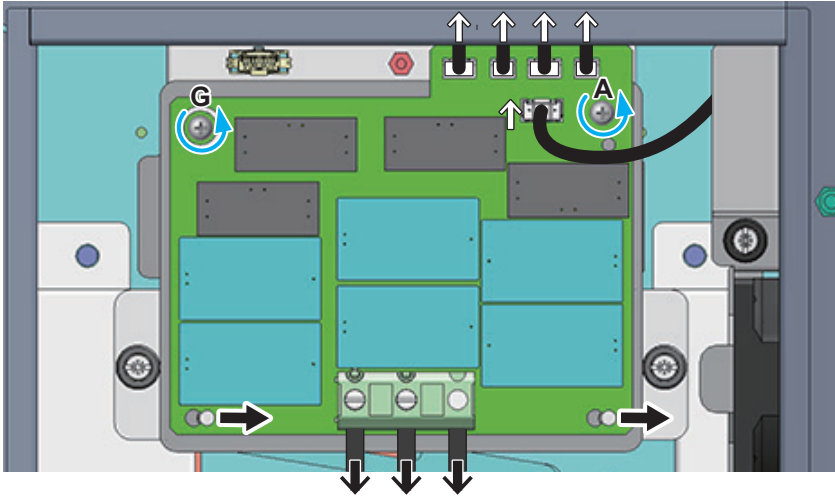

Figure 5-7: Remove wirings as connectors of AC SPD
- **To remove the defective AC SPD (Figure 5-7)**
Tighten the five screws to a torque value shown in **Figure 5-7**.